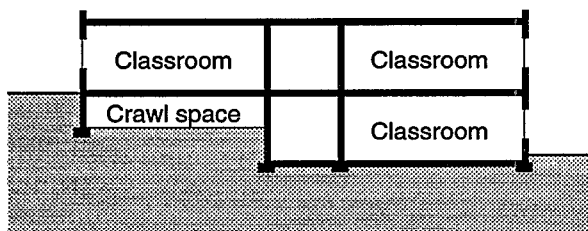
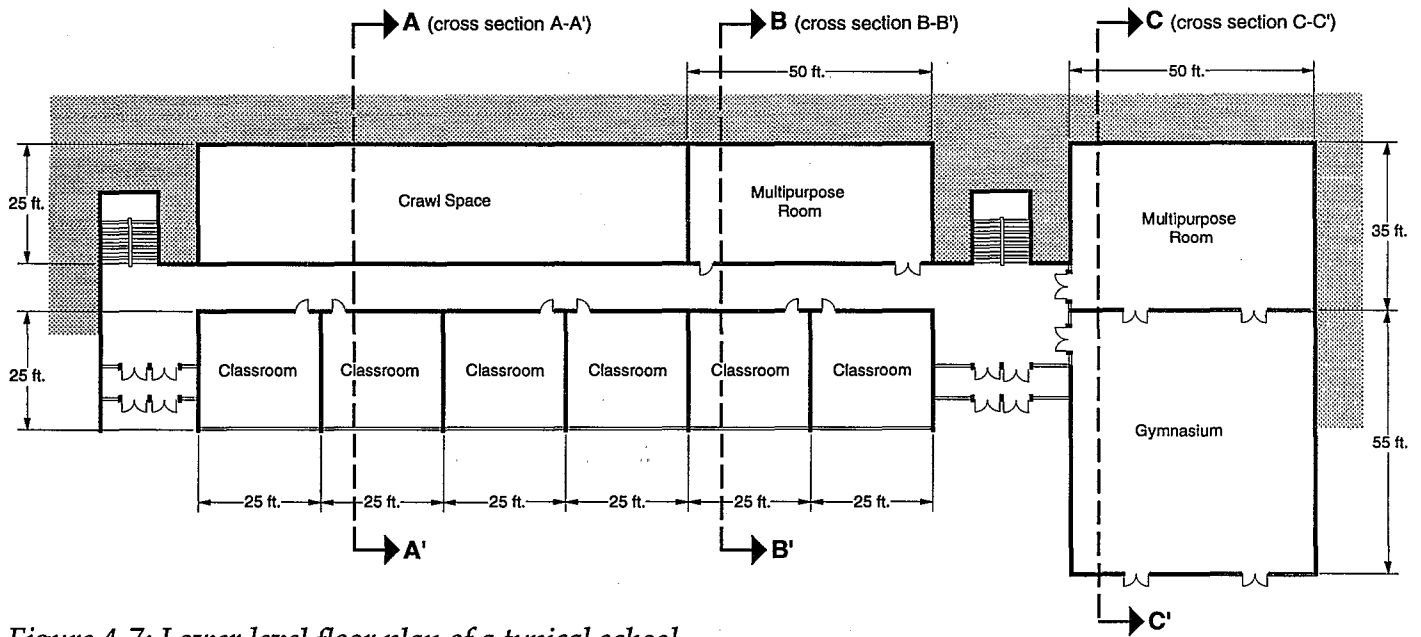

Figure 4-4: Cross section A-A' of part of a typical school.
Figure 4-7: Lower level floor plan of a typical school.
See Figure 4-7 and 4-8 for the location of these cross sections on the building floor plan.
A typical two-level school is shown in cross section and floor plan drawings on this and the facing page. A **cross section** shows a side view of a building that has been cut through to reveal what is inside. A **floor plan** shows a top view of a building with the roof taken off. If it is a multistory building, the plan view looks at a particular floor with all the floors above removed. *The three cross sections on this page (Figures 4-4, 4-5, and 4-6) correspond to the section lines on the two floor plans (Figures 4-7 and 4-8).* To assist you with determining the appropriate number of detectors per school room, dimensions are given so that the floor area of a particular room can be calculated if necessary.
The dashed lines on this plan correspond to the cross sections in Figures 4-4, 4-5, and 4-6.
*Correct answer for Figure 4-7: Lower level plan of a typical school showing placement of detectors.*